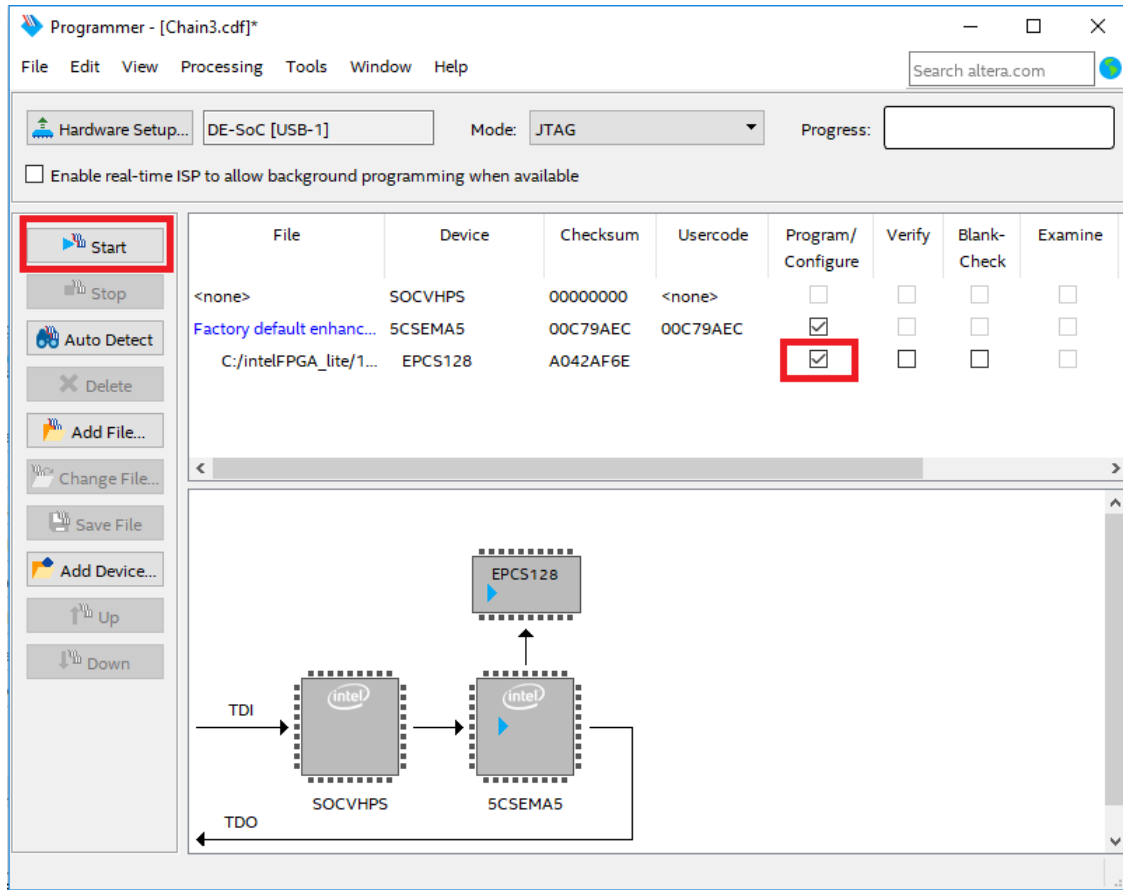

Figure 11: Program the JIC file - Step 5
5. Finally, check the 'Program/configure' box beside the 'EPCS128' device, and then click 'Start'. Refer to Figure 11.